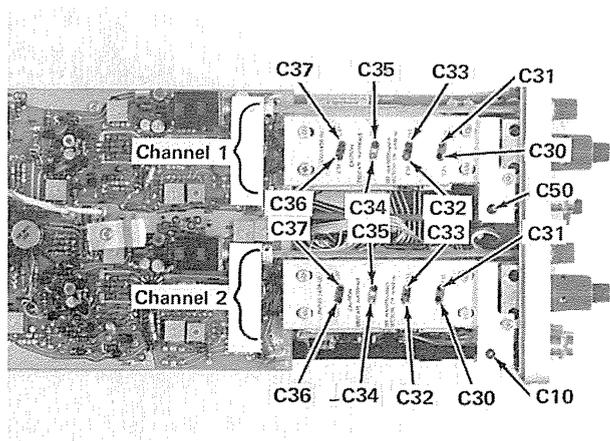

Fig. 5-19. Location of VOLTS/DIV Compensation adjustments.
e. ADJUST—C10 (see Fig. 5-19) with a low-capacitance screwdriver for best flat-top waveform.
- j. ADJUST—Channel 2's C36 and C37 (see Fig. 5-19) with a low-capacitance screwdriver, for best corner and flat-top waveform.
- o. ADJUST—Channel 2's C34 and C35 (see Fig. 5-19), with a low-capacitance screwdriver, for best corner and flat-top waveform.
- s. ADJUST—Channel 2's C32 and C33 (see Fig. 5-19) with a low-capacitance screwdriver, for best corner and flat-top waveform.
- aa. ADJUST—Channel 2's C30 and C31 (see Fig. 5-19) with a low-capacitance screwdriver, for best corner and flat-top waveform.
- d. ADJUST—C50 (see Fig. 5-19) with a low-capacitance screwdriver for best flat-top waveform.
- i. ADJUST—Channel 1's C36 and C37 (see Fig. 5-19) with a low-capacitance screwdriver, for best corner and flat-top waveform.
- n. ADJUST—Channel 1's C34 and C35 (see Fig. 5-19) with a low-capacitance screwdriver, for best corner and flat-top waveform.
- r. ADJUST—Channel 1's C32 and C33 (see Fig. 5-19) with a low-capacitance screwdriver, for best corner and flat-top waveform.
- z. ADJUST—Channel 1's C30 and C31 (see Fig. 5-19) with a low-capacitance screwdriver, for best corner and flat-top waveform.